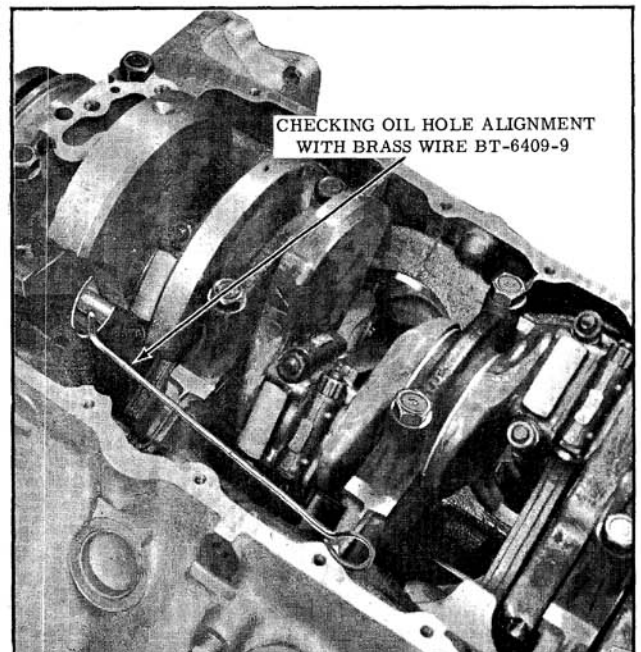

Fig. 3-97 Checking No. 5 Oil Hole
2. Use BT-6409-9 to check oil hole opening as shown in Fig. 3-97.
6. Use BT-6409-9 to check all oil hole openings. Wire must enter hole or the bearing will not receive sufficient lubrication. (Fig. 3-97).